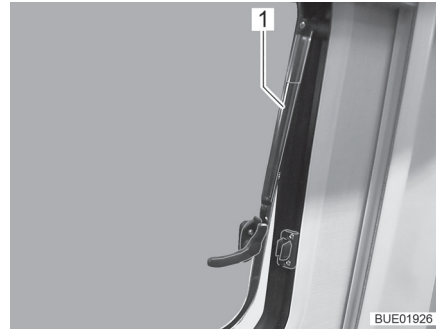

Fig. 11 Hinged window with automatic hinges, open
- Open hinged window half up to the required position. Allow the hinged window to engage automatically with the automatic hinge (Fig. 11,1).